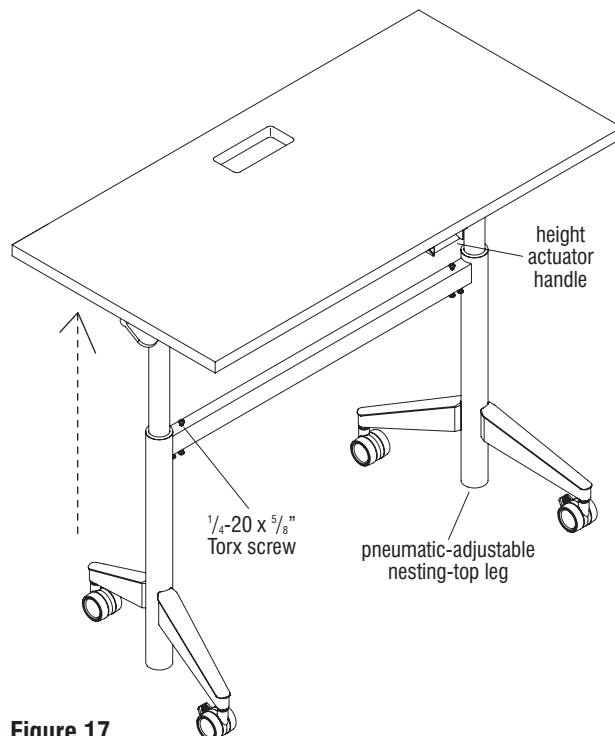

Figure 17
47. Locate the height actuator handle at the front, user side of the table and raise the table height enough to gain access to the top holes on each end of the lower cross-brace (Figure 17).